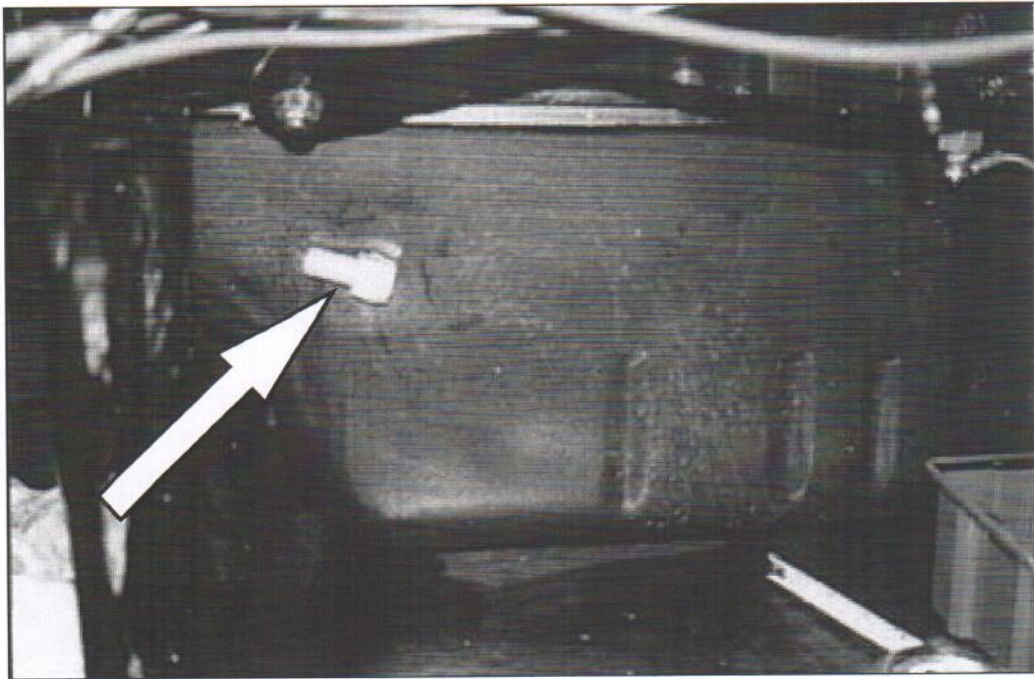

FIGURE A1
1. Remove the 3/8" NPT plug located in the port side of the engine oil pan. (see figure A1)